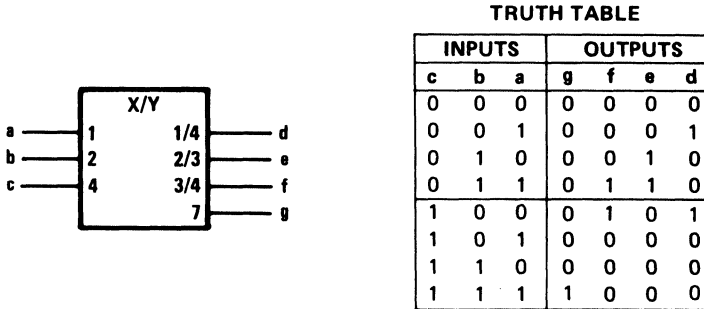

Figure 3-27. An X/Y Code Converter
- 1) labeling each output with a list of numbers representing those internal values that lead to the internal 1-state of that output. These numbers shall be separated by solidi as in Figure 3-27. This labeling may also be applied when Y is replaced by a letter denoting a type of dependency